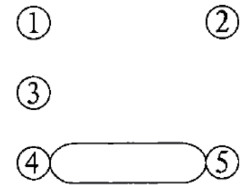

Figure 12.3: Tap setting example 3
- 9.5kV (low), with the power turned off, the downward links of the tap should be connected, as shown in Figure 12.3.